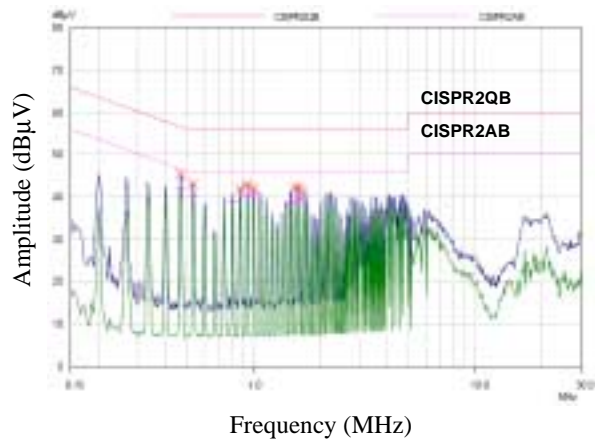

Figure 11. KA5-series FPS™ Full Range EMI scan(67KHz, no Frequency Modulation) with DVD Player SET
**7. Frequency Modulation :** EMI reduction can be accomplished by modulating the switching frequency of a switched power supply. Frequency modulation can reduce EMI by spreading the energy over a wider frequency range than the band width measured by the EMI test equipment. The amount of EMI reduction is directly related to the depth of the reference frequency. As can be seen in Figure 11, the frequency changes from 65KHz to 69KHz in 4mS for the FSDM0265RN. Frequency modulation allows the use of a cost effective inductor instead of an AC input mode choke to satisfy the requirements of world wide EMI limits.